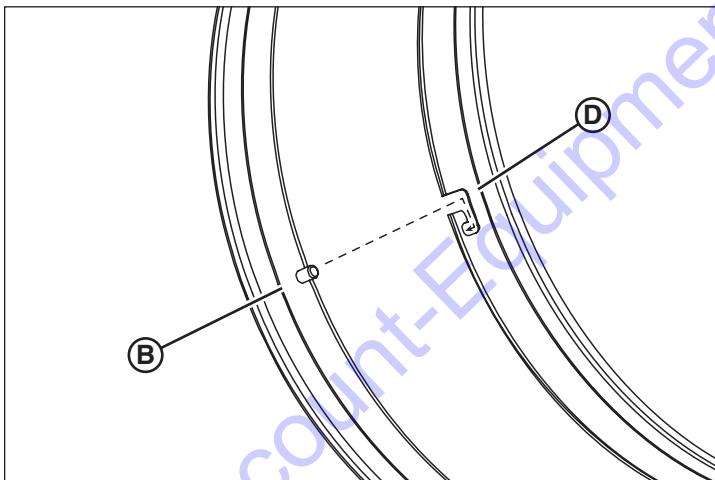

Figure 19
2. To attach the slip-lock flexible duct, align a lock pin and arrow of the connecting band (B, Figure 19) with a "J" slot in the outlet ring (D). Slip the connecting band inside the outlet ring as deep as it will go. Twist the connecting band counter-clockwise to the end of the "J" slot, then pull back to lock.